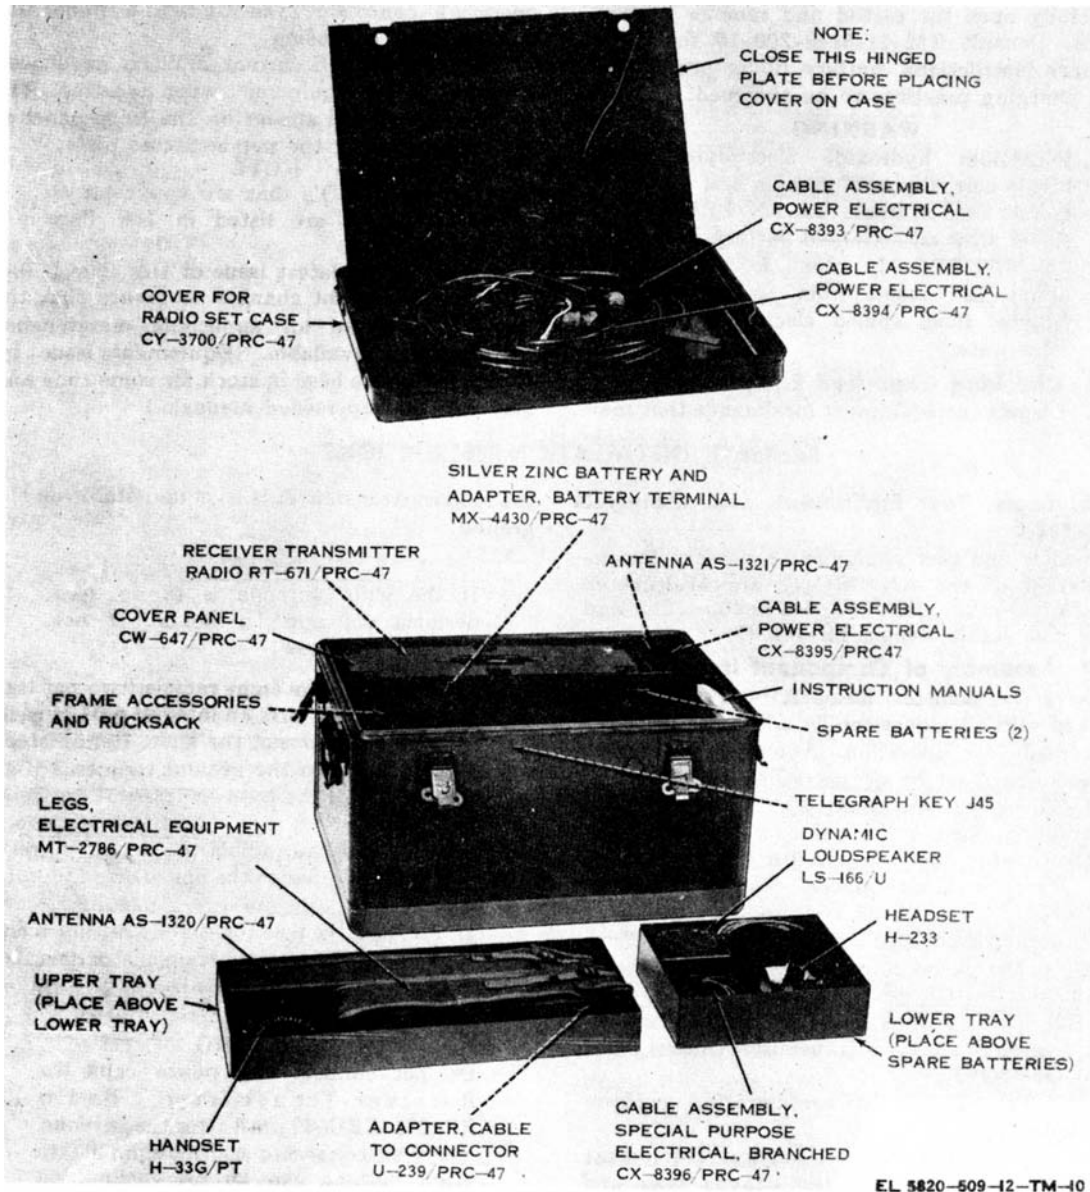

Figure 2-2. Case, Radio Set CY-3700/PR-7. packing details.
b. *Running Spares.* The chart below lists the running spares for the radio set. The two spare batteries are stored in the radio set case (fig. 2-2); the two fuses and the four lamps are stored inside the receiver-transmitter panel cover (fig. 1-6).
CX-8393/PRC-47 and CX-8394/PRC-47 are coiled inside the cover /fig. 2-2). Release the hinged plate by pressing the push-to-release fasteners.
(a) Remove antenna elements from antenna case (fig. 2-2).
(a) Remove the antenna from the case (fig.2-2).